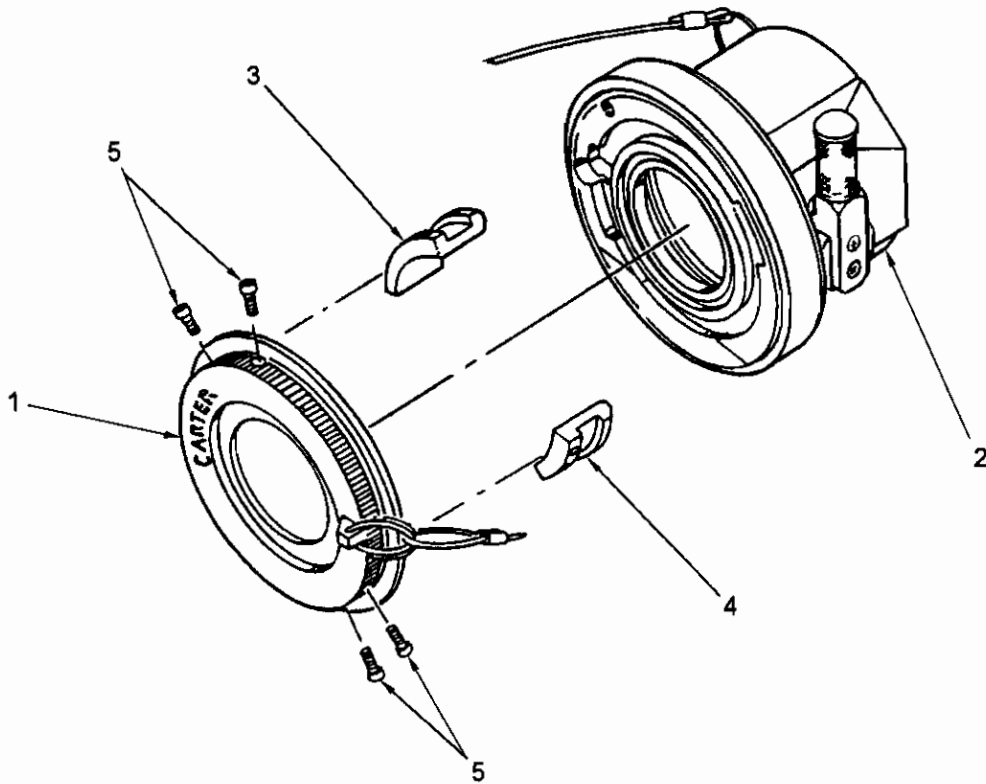

Figure 4-6. Three-Inch Unisex Coupling Dust Cap Lug Replacement
- (1) Install lugs (4 and 5) and screws (6).
- (2) Install bumper (3) on unisex coupling (2) such that the tapered edge is facing toward the coupling body.
4.8.6 REPLACE THREE-INCH UNISEX COUPLING DUST CAP LUGS. (Refer to figure 4-6.)